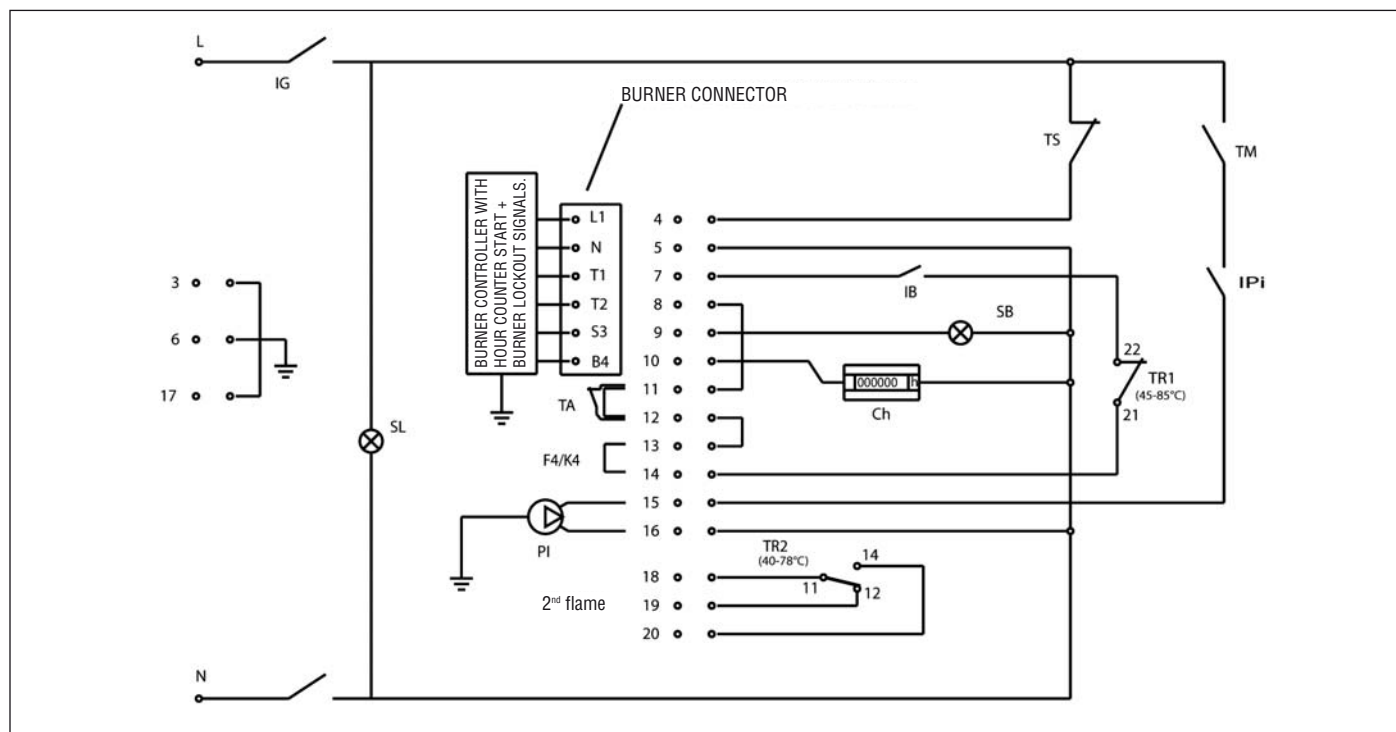

Fig. 17
7.2 Single-phase burner and pump wiring diagram (Fig. 17)